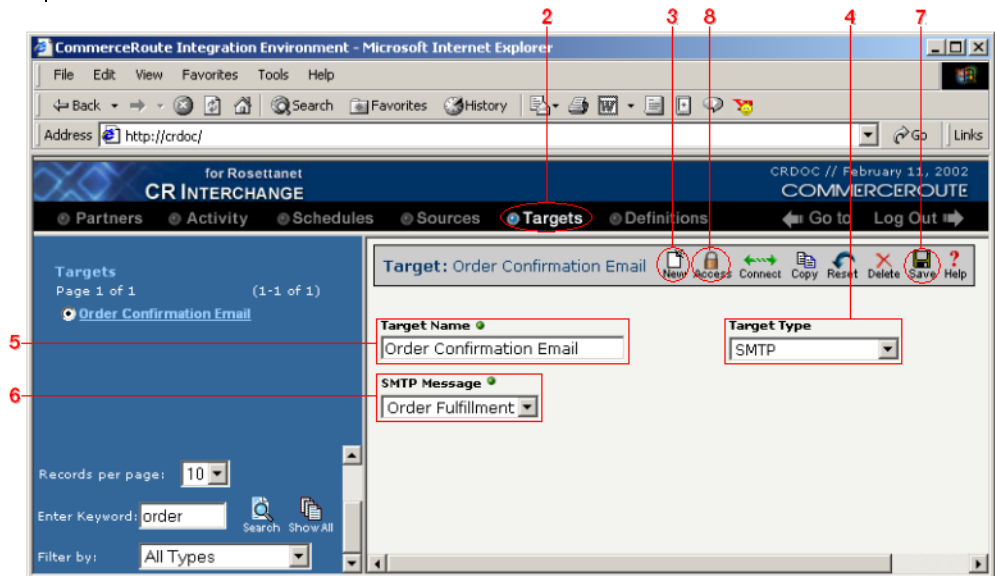

Figure 8-8. Follow the steps listed above to successfully define a new SMTP target.
Follow these steps to create a new SMTP target definition. Each step is marked in Figure 8-8 below.
- ❶ Log in to the CR Interchange environment (see “Log In to the Tour” on page 2-2 for details).
- ❷ Click on the **Targets** button in the main navigation bar at the top of the screen.
- ❸ Click on the **New** button in the toolbar to create a new target definition.
- ❹ Select **SMTP** from the **Target Type** drop-down menu.
- ❺ Type a new name for the target in the **Target Name** field.
- ❻ Select the pre-defined target message that you want to use from the **SMTP Message** drop-down menu.
- ❼ Click the **Save** button in the toolbar. Compare your definition to that shown in Figure 8-8 below.
- ❽ (Optional) If you want to give other users and/or groups access to this definition, click the **Access** button in the toolbar.